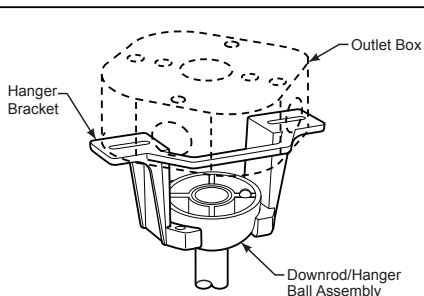

Figure 4
4. Thread downrod into the downrod support on top of the motor. Install the clevis pin by aligning the holes in the downrod support with holes in the downrod. Secure clevis pin with hairpin clip. Tighten the two set screws with screwdriver then fully tighten the nuts by hex wrench. (Figure 4)
2. Carefully lift the fan and seat the downrod/hanger ball assembly on the hanger bracket that was just attached to the outlet box. Be sure the groove in the ball is lined up with tab on the hanger bracket. (Figure 4) This fan is intended for standard and angled mounting options only. Closemount and flushmount options are not available. For angled ceilings, note the angle can be no more than 19°.
3. Connect wires using connectors as shown in Figure 4.
- ☐ 4. Connect the 2 single pin connectors from the LED assembly to the 2 single pin connectors from motor assembly. (Figure 4)
- ☐ 4. To make fan operational, install two 3V batteries (included) in hand-held remote transmitter, with fan power off. Then, follow the remote code setting process. If not used for long periods of time, remove battery to prevent damage to transmitter. Store the remote away from excessive heat or humidity. (Figure 4)